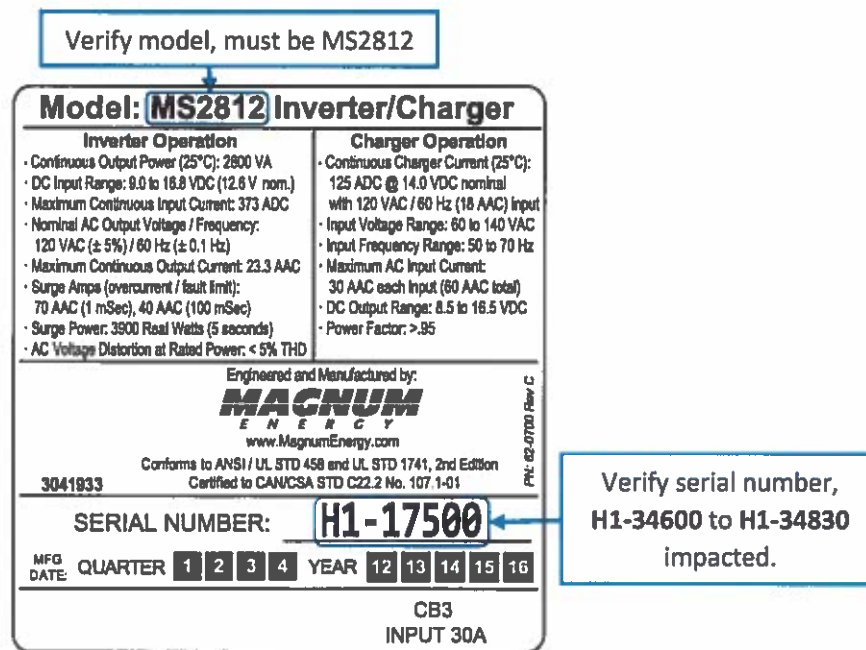

Figure 1, MS2812 Model/Serial Number label
2. View the model and serial number label on the side of the inverter (see Figure 1).